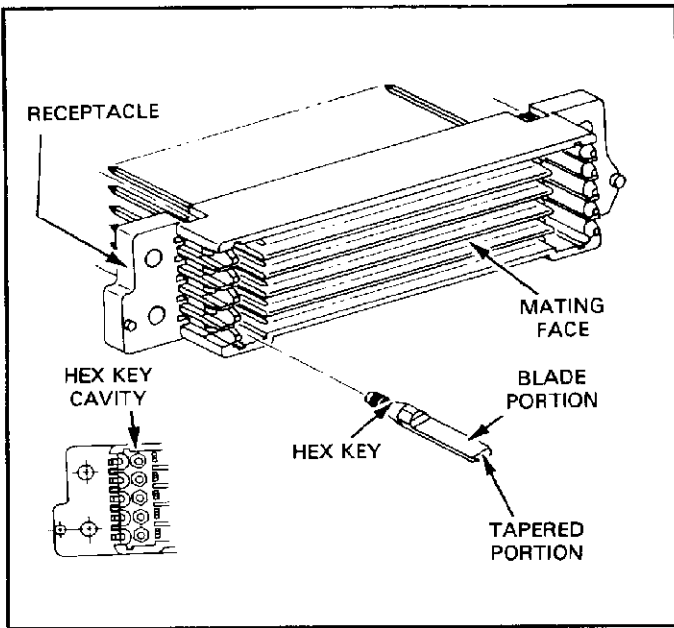

Fig. 3
It is required that hex keys be used to provide keying between the mating members. The hex key will fit into the hex-key cavity in six different positions. As shown in Figure 3, each hex key has a blade portion and a tapered portion. After the hex keys have been installed in one of the mating members, the blade portions of the hex keys installed in the other mating member must be rotated 180° from those of the first mating member. Otherwise, it will be impossible to mate the two assemblies.
1. Align the hex key with the desired hole and correct position, as shown in Figure 3. Then — keeping it aligned with the hole — position it into the hole. Make sure that the flat blade portion of the hex key will be oriented properly; use a needle-nose pliers, if necessary.